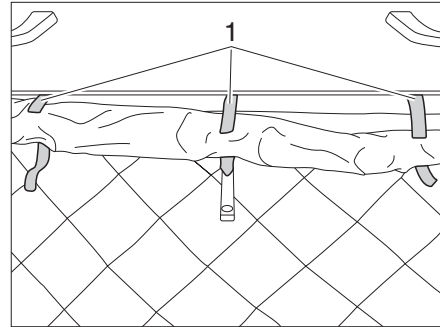

Fig. 8 Opening the Velcro
- Open the three Velcros (Fig. 8,1) of the cloth bellows.
- Roll up the cloth bellows in area of the locking mechanism with care and fasten with the three Velcros (Fig. 8,1).